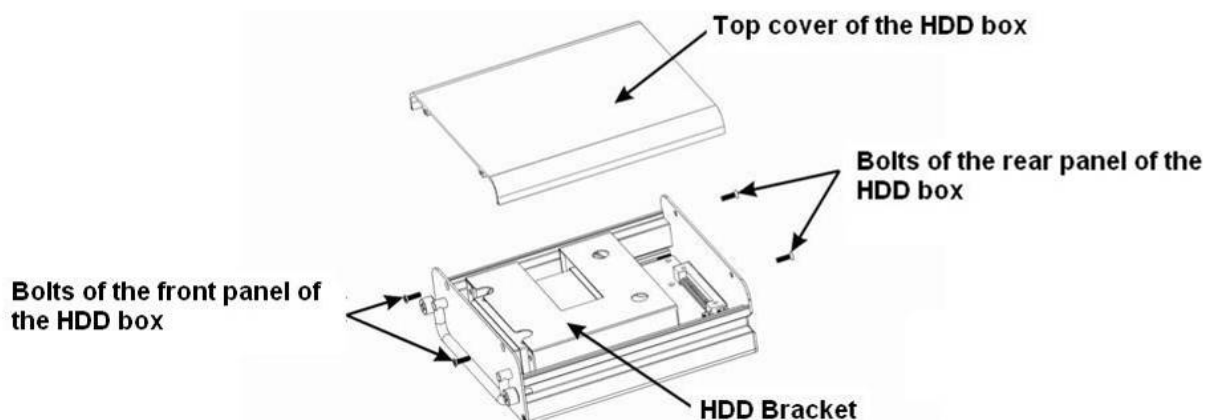

Figure 3-1
1) The HDD box and the parts are shown as below. See Figure 3-1. Please loosen the bolts of front panel and rear panel of the HDD box and then remove the top cover of the HDD box.
The video input interface is BNC. The input video format includes: PAL/NTSC BNC (1.0V_{P-P}, 75Ω. See Figure 3-1.